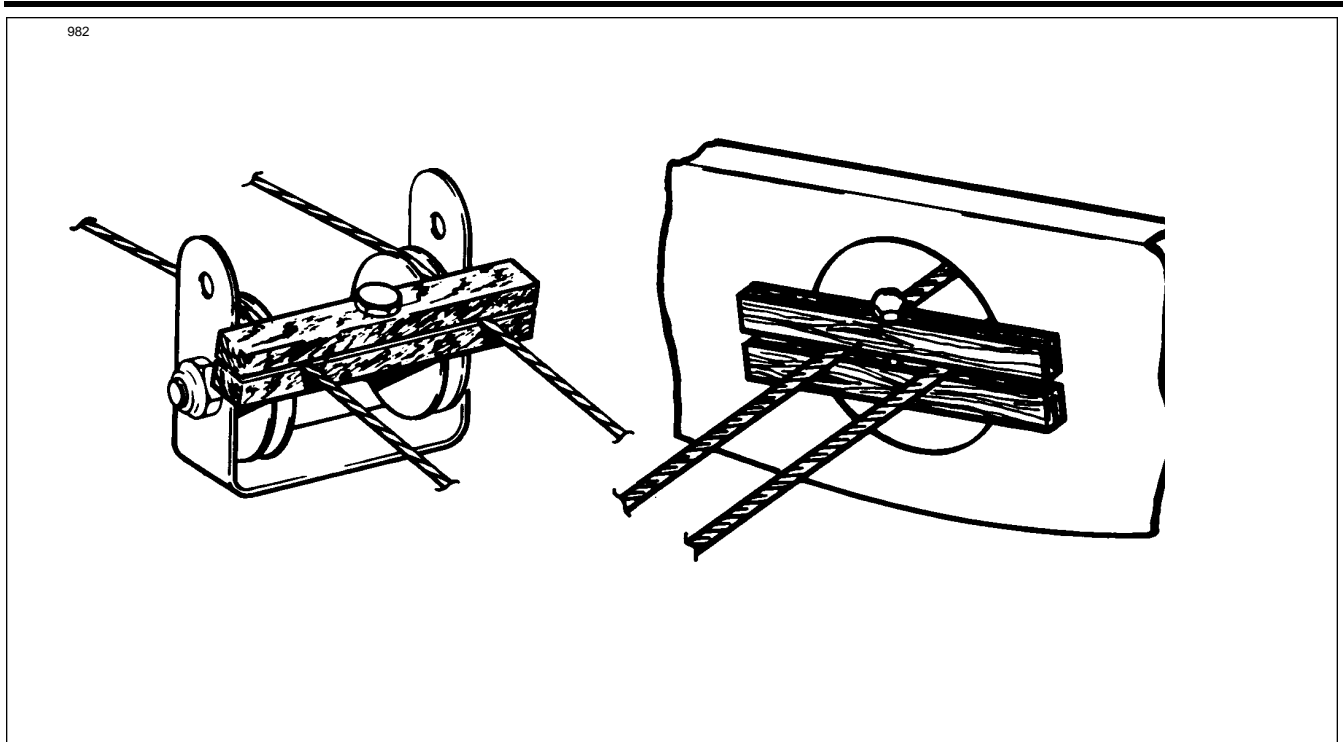

Figure 4-3. Methods of Securing Control Cables
- d. Install cable blocks, as illustrated in Figure 4-3, on the stabilator trim control cable at the first set of pulleys forward of the cable turnbuckles to prevent the forward cable from unwrapping.